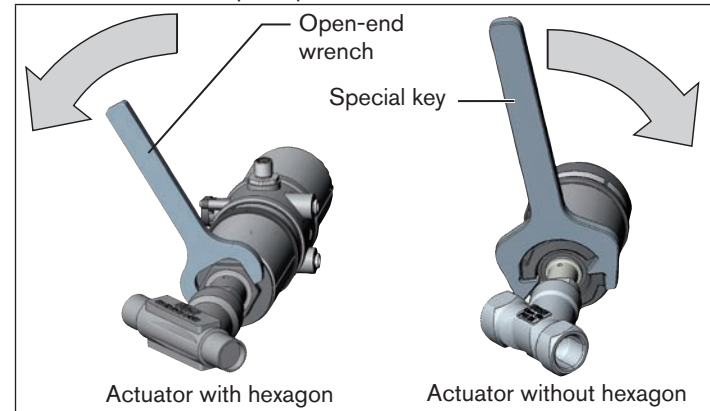

Fig. 32: Rotating with special key / open-end wrench
▶ Rotate the actuator module in the specified direction only (see "Fig. 32").